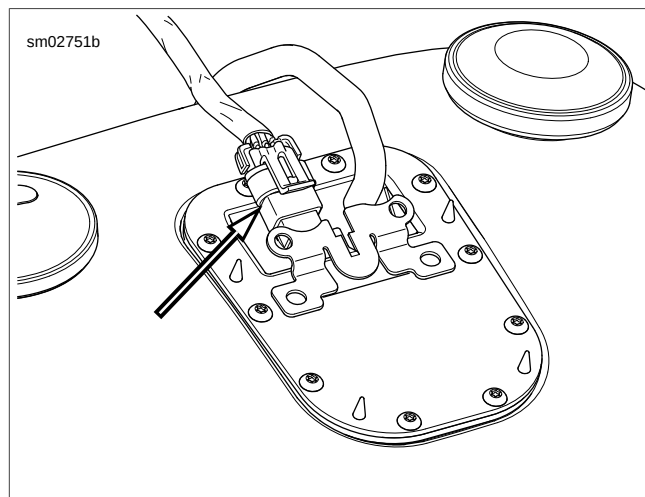

Figure 4-4. Fuel Pump Module Connector (Typical)
- a. See Figure 4-4. Unplug fuel pump module connector [86].